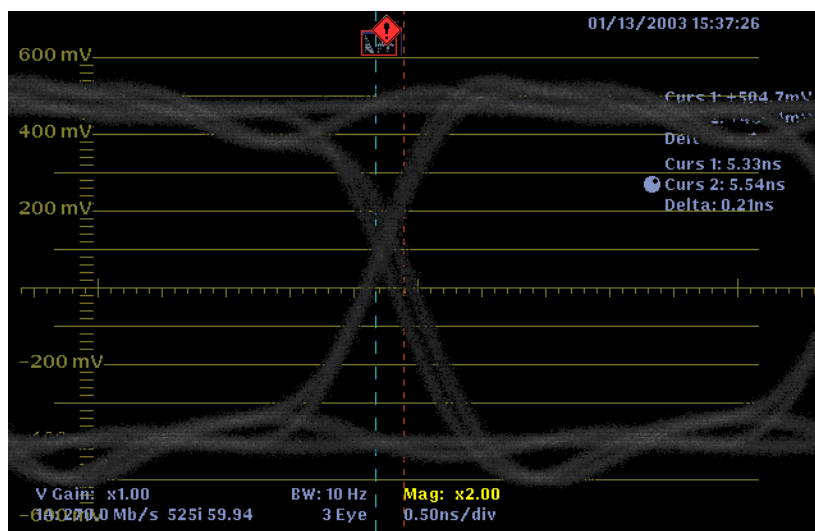

Figure 3-9: Timing Cursors alignment for measuring timing jitter
4. Position the timing cursors to measure the width of the Eye zero-crossing point (see Figure 3-9). If necessary, use the Gain and Sweep menus for better vertical and horizontal resolution.